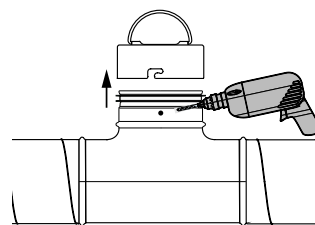

Fig. 3
3. Remove the cover (Fig. 3).
4. Drill holes for the rivets (Fig. 3).